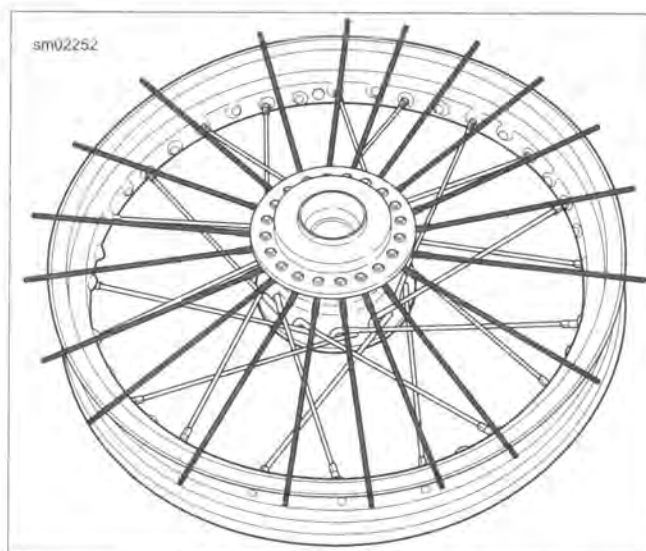

Figure 2-38. Fanning Top Flange Spokes
- Beginning with 3rd hole counterclockwise (2) from valve stem hole, install lower flange inner spokes (long head) in every 4th hole. Loosely install spoke nipples. Each inner spoke will cross four outer spokes.
- See Figure 2-38. Carefully release each top bundle and fan the spokes around the rim edge.